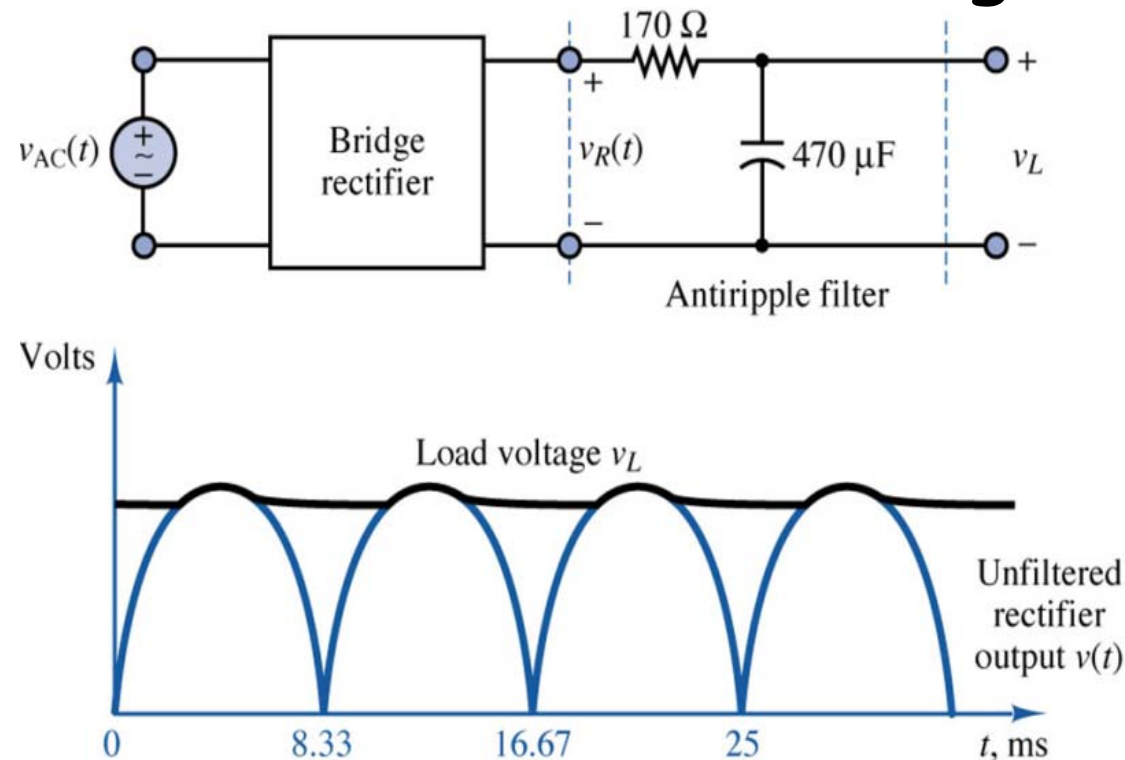

Figure 4.8:
- A simple yet effective way to eliminate the ripples in the output voltage is to make use of a capacitive filter circuit as shown in Fig. 4.8.